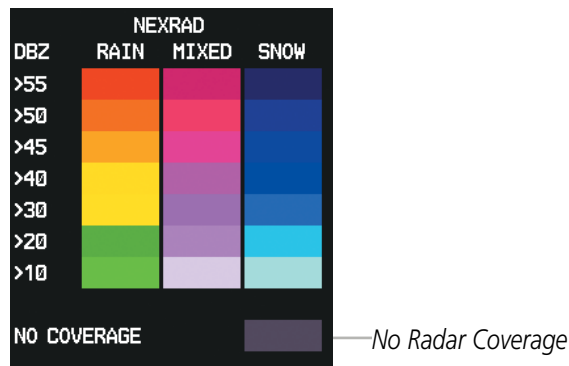

Figure 6-11 NEXRAD Data with Legend
- 1) Press the **MAP** Softkey (for the PFD Inset Map, press the **INSET** Softkey). This step is not necessary on the Weather Data Link (XM) Page.
Composite data from all the NEXRAD radar sites in the United States is shown. This data is composed of the maximum reflectivity from the individual radar sweeps. The display of the information is color-coded to indicate the weather severity level. All weather product legends can be viewed on the Weather Data Link (XM) Page. For the NEXRAD legend (Figure 6-11), press the **LEGEND** Softkey when NEXRAD is selected for display.
The display of no radar coverage is always active when either NEXRAD or Echo Coverage is selected. Areas where NEXRAD radar coverage and Echo Tops information is not currently available or is not being collected are indicated in a gray shade of purple (Figure 6-11).